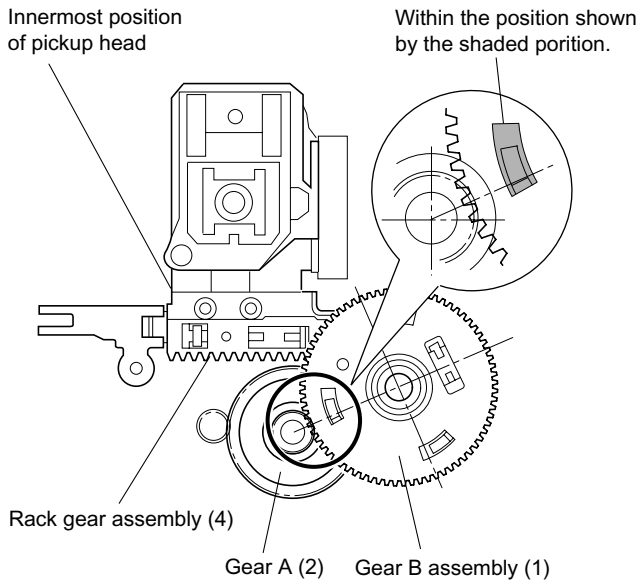

**Fig. 2-1-20**
2. Mount the gear B assembly (1) by pushing the pickup head (5) to the disc motor side (arrow A direction) and shifting the upper gear of the rack gear assembly (4) in the arrow B direction. (Refer to Fig. 2-1-20.)